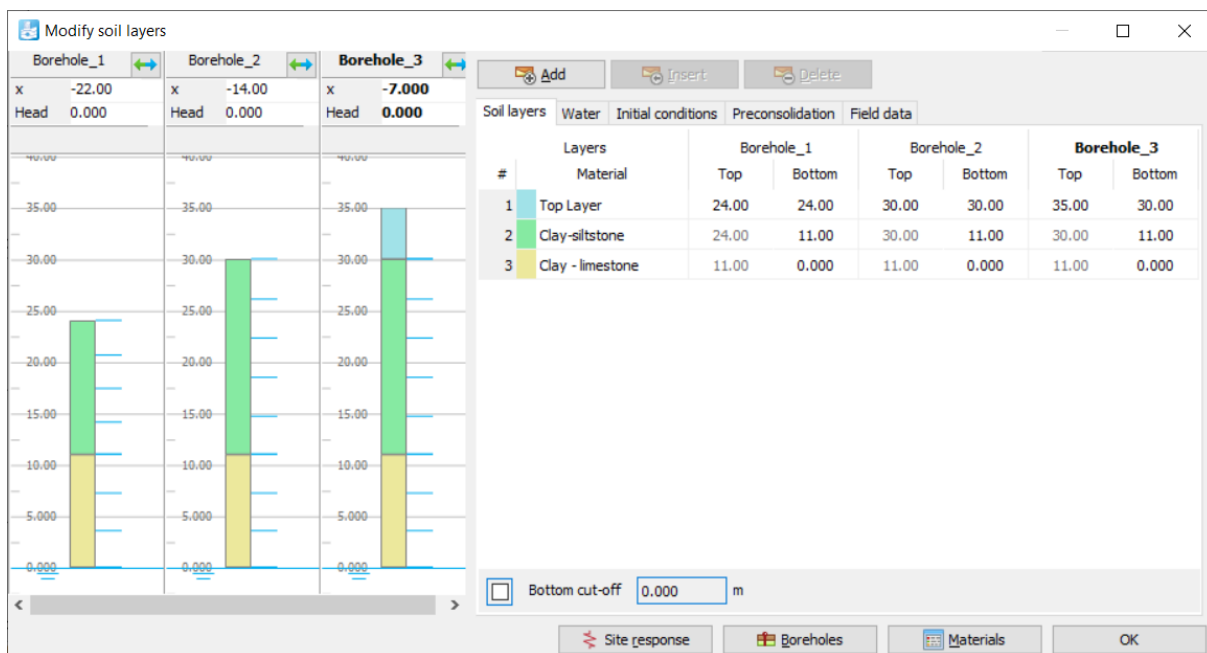
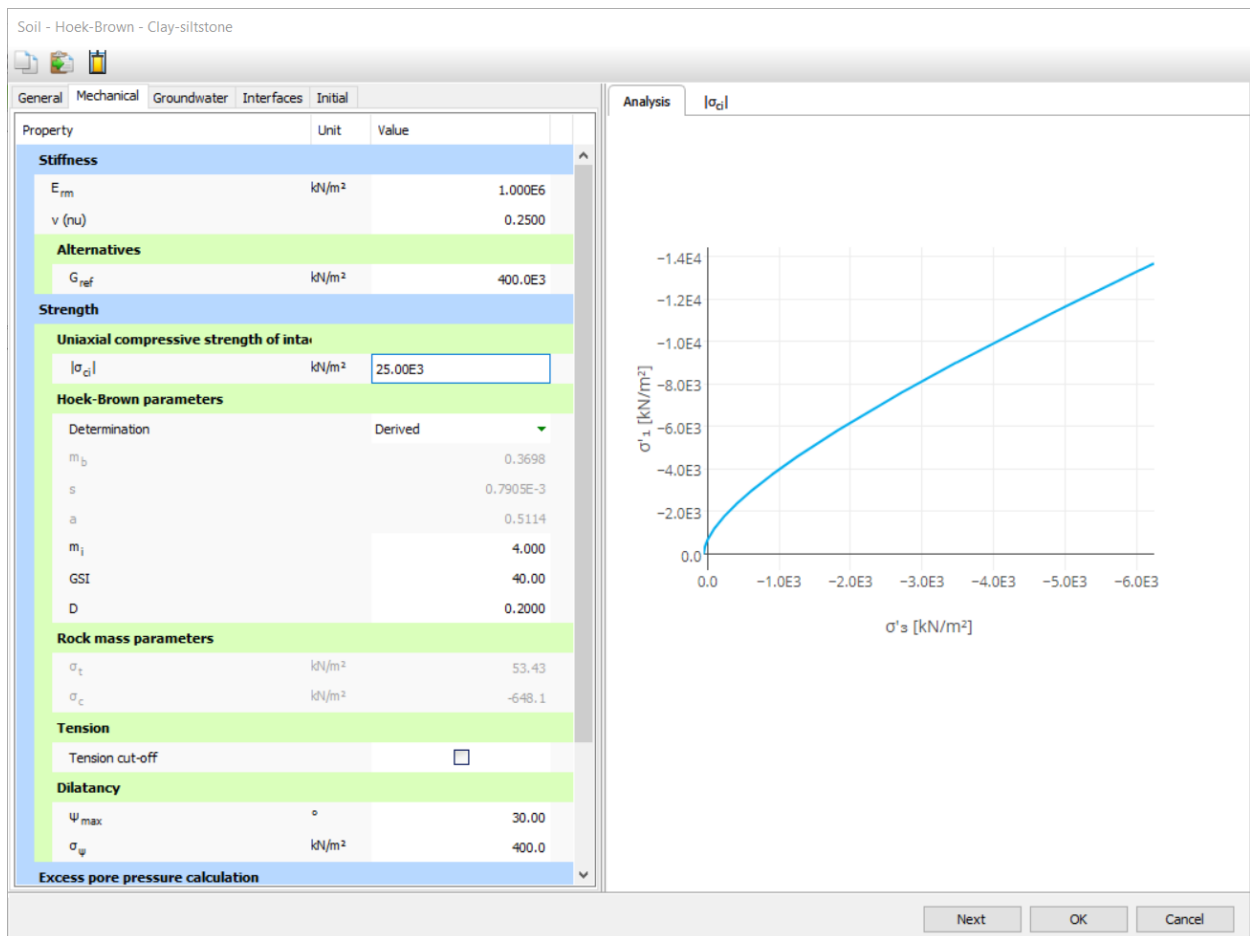

Figure 67: Soil layer distribution
Figure 68: Mechanical Parameter
10. Specify the soil layer distribution as shown in Figure 67 (on page 90).
1. Create soil material data sets according to Table 11 (on page 90) and assign them to the corresponding layers Figure 67 (on page 90) and while assigning the values for soft rock layers as per Table 12 (on page 91), find the analysis for various parameters after expanding the window one of which is shown in Figure 68 (on page 93).